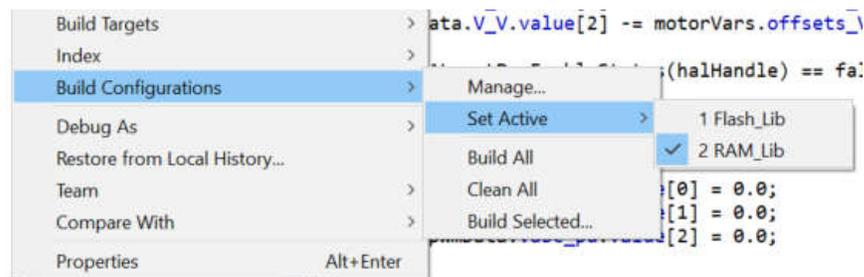

Figure 14: Selecting a RAM Build Configuration for is01_intro_hal
2. Project “is01_intro_hal” can be configured to run from FLASH or RAM. To change the build configuration, right-mouse click on is01_intro_hal” in the Project Explorer pane and select “Project->Build Configuration->Set Active”. From this window, select the configuration needed for the current build: “2 RAM_Lib” to run code from RAM, or “1 Flash_Lib” to run from FLASH. Alternatively, select “Project->Build Configuration->Manage...” to create a new build configuration. **Figure 14** illustrates selecting a RAM build configuration.